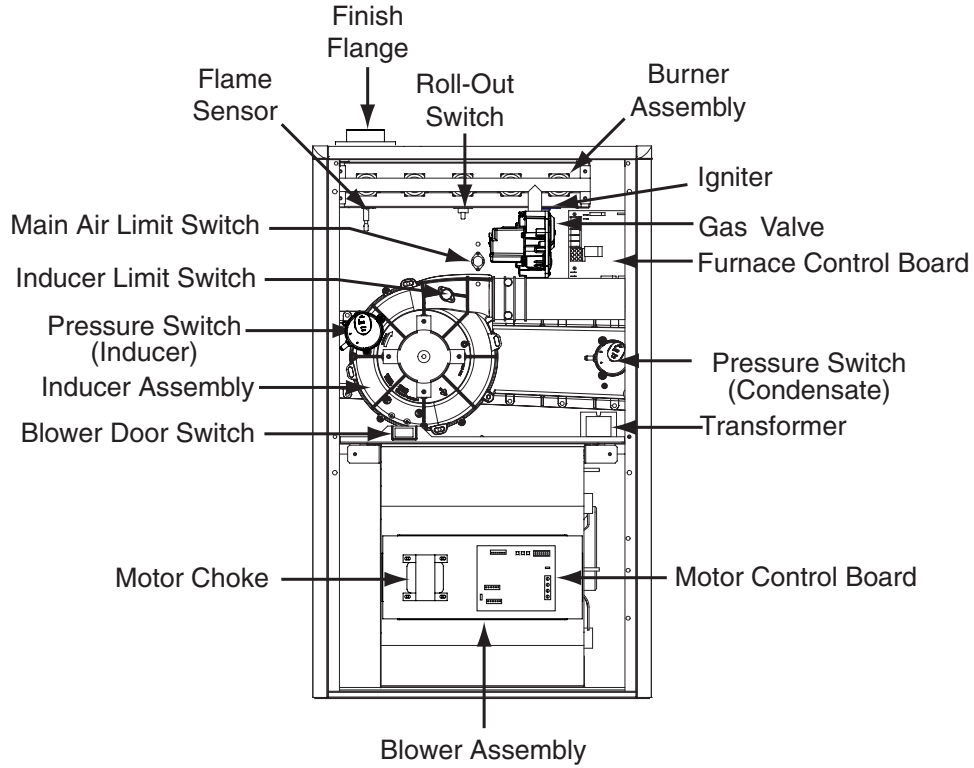
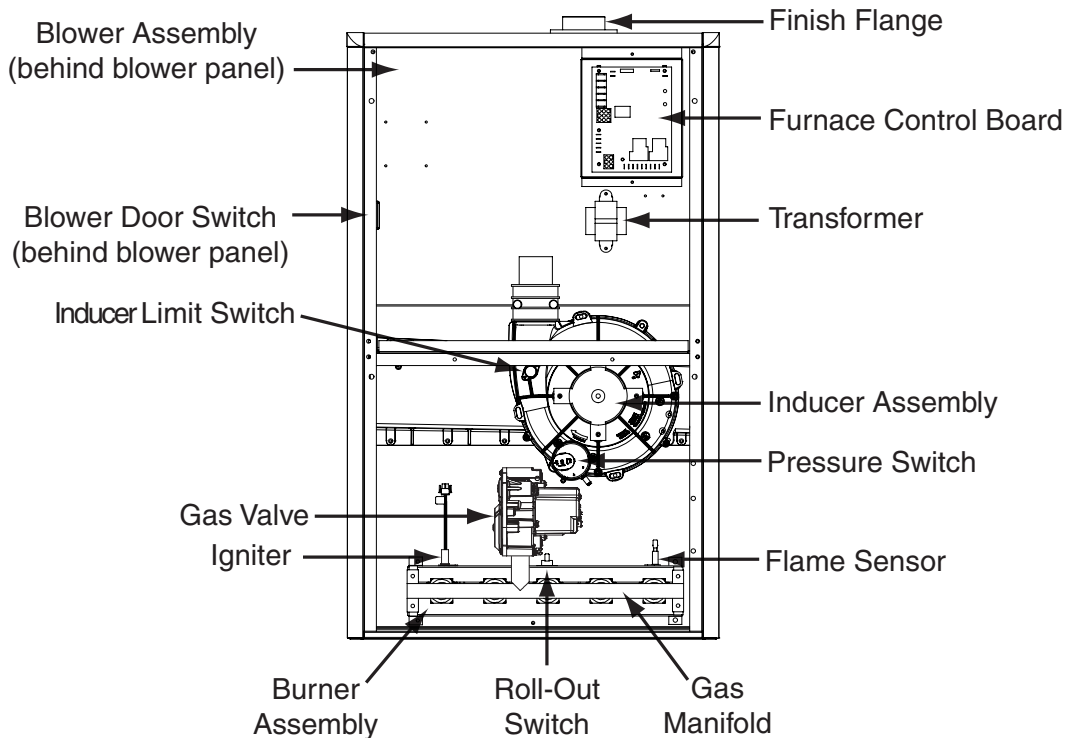

Figure 41. J951X*U Component Locations
Figure 42. J951X*D Component Locations
- If the Inducer Blower is operating, and items above have been verified, check the Blower Limit Switch and reset if necessary. See Figure 41 (page 44) or Figure 42 (page 44) for component location.
The descriptions below are various functional components that affect the operation and shutting down of this furnace. Some of these components and their locations are shown in Figure 41 \(page 44\) or Figure 42 \(page 44\). If any component of the furnace must be replaced, use only factory authorized replacement parts specified in the Replacement Parts List provided online.